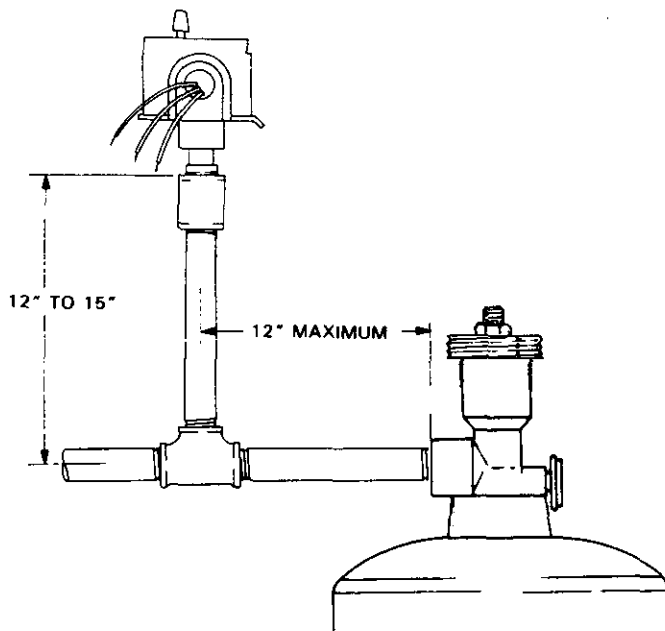

Figure 6-6. Pressure Switch Installation
I. PRESSURE SWITCH — The pressure switch must be installed in the discharge piping as shown in Figure 6-6.